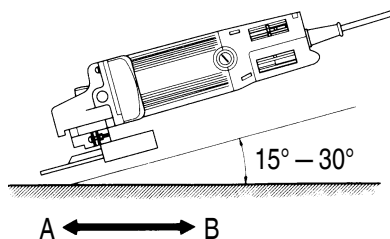

Fig. 1
Do not apply the entire surface of the depressed center wheel to the material to be ground. As shown in **Fig. 1**, the machine should be held at an angle of $15^{\circ} - 30^{\circ}$ so that the external edge of the depressed center wheel contacts the material at an optimum angle.
3. To prevent a new depressed center wheel from digging into the workpiece, initial grinding should be performed by drawing the grinder across the workpiece toward the operator (**Fig. 1 direction B**).